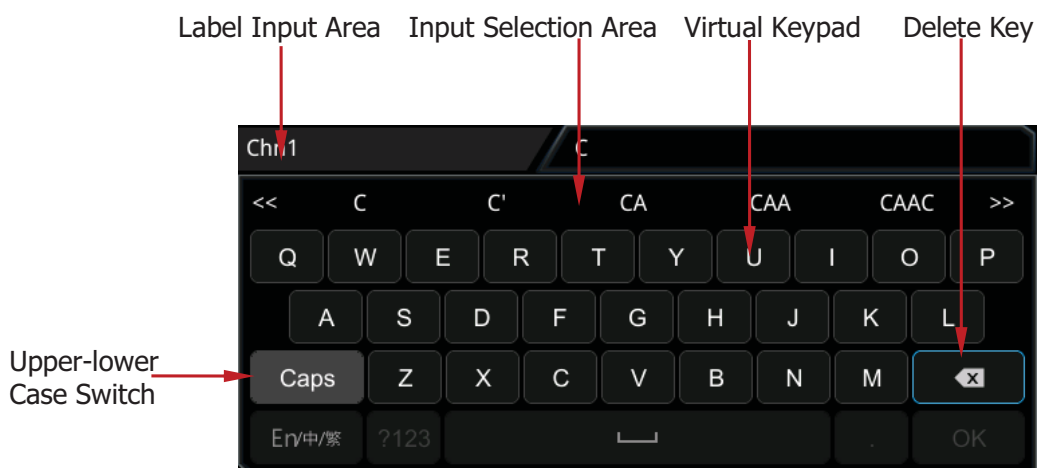

Figure 2-3 Label Editing Interface
- Press **Label** and the label editing interface is automatically displayed as shown in Figure 2-3. You can input the label manually. For the label input method, refer to "To Create a Folder".